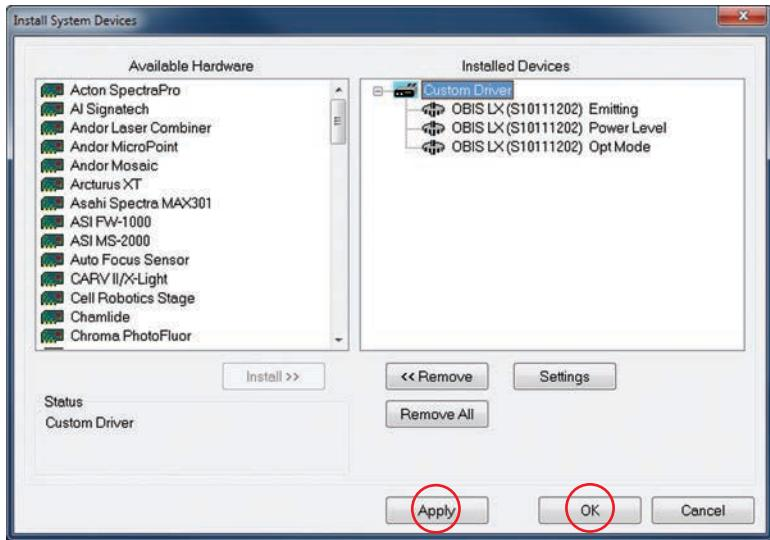

Figure H-14. Apply Custom Driver
10. In the window shown in Figure H-14, click Apply and then OK.